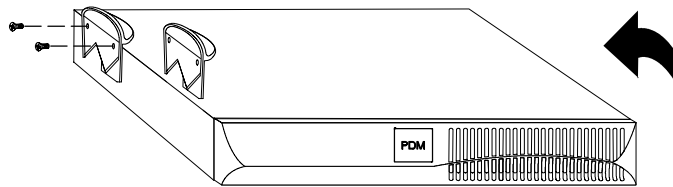

Figure 3. Installing PDM Pedestals with Two Cabinets
2. Place the PDM cabinet horizontally so that the left end of the unit is accessible (see Figure 3).